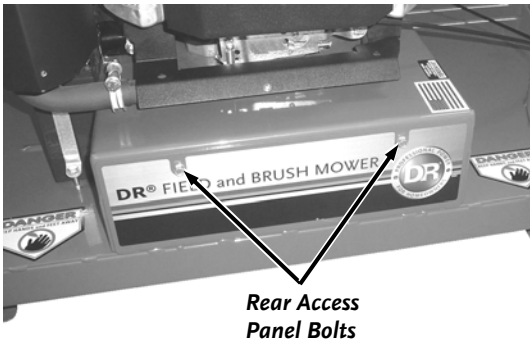

Figure 29
9. Using a 7/16" Wrench or Socket, remove the two Bolts and Lock Washers that retain the Rear Access Panel on the Mower and remove the Panel (**Figure 29**). This will open access to the Drive Pulley for Belt removal and installation.